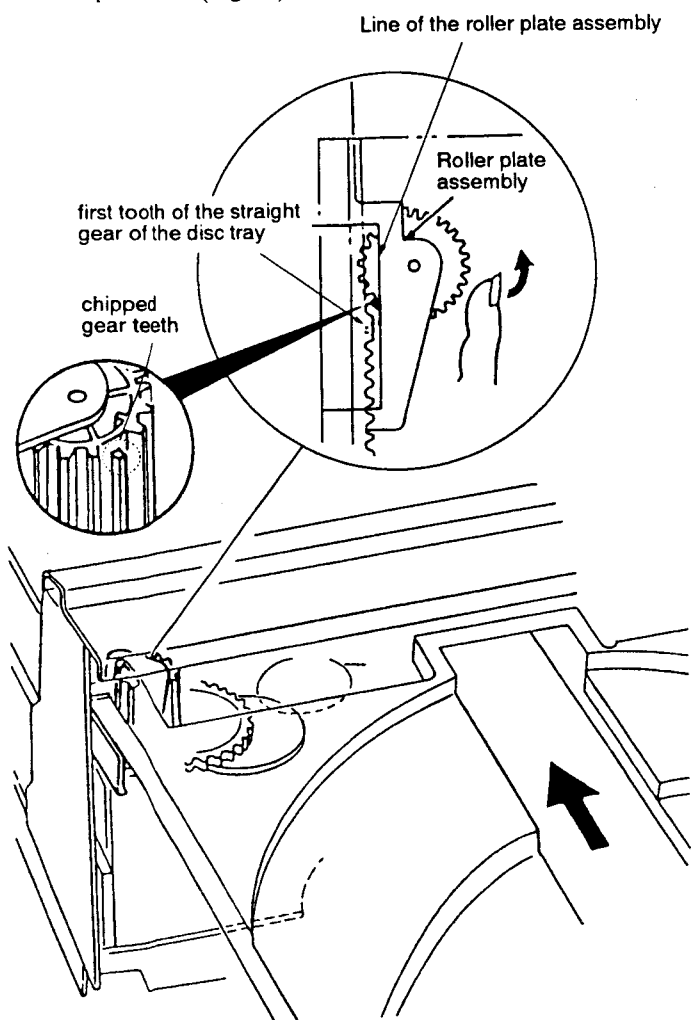

Fig. 19
- ① Adjust the gear positions in the loading mechanism for the disc tray open status, as ① and ② mentioned below.
- ①: The position where the cam gear turns counter-clockwise and stops when the OPEN/CLOSE button is pressed.
- ②: The position where the cam gear stops when the pulley is continuously turned by hand.
- ② The top of one of the gear teeth of the roller plate assembly has been chipped off. Finely adjust the position of this chipped tooth by turning the gear counterclockwise so that the tooth comes halfway on the roller plate line. (Fig.19)